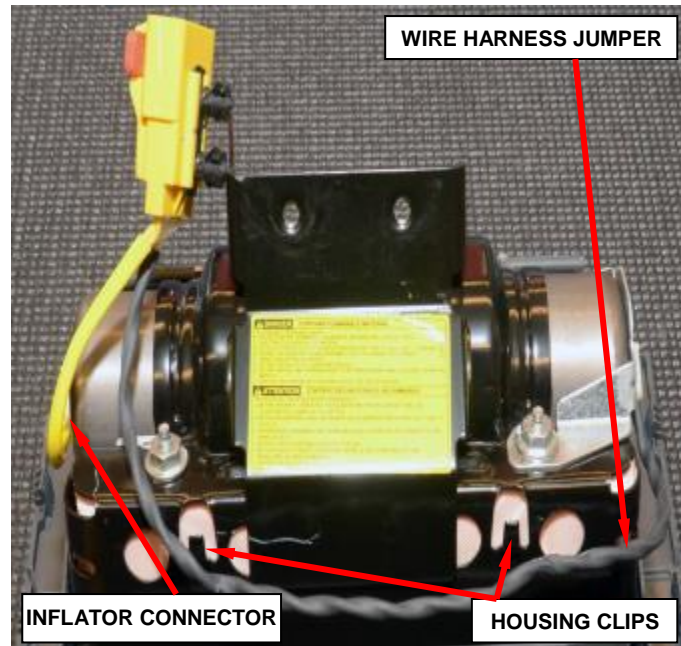

Figure 26 – Wire Harness Jumper
- b. Disengage the wire harness jumper from the housing clips in two places (Figure 26).
- c. Disconnect the single yellow wire inflator connector from the end of the inflator using pliers (Figure 26).